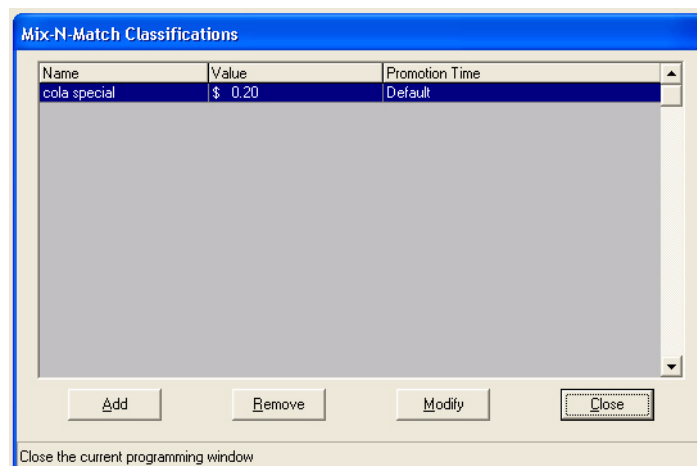

Figure 13-7 Mix-N-Match Classifications Window
1. Access Mix-N-Match programming by selecting **Programming > Cash Register > Discount Classifications > Mix-N-Match**. The window in Figure 13-7 below shows the present Mix-N-Match classifications.